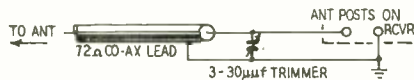

Fig. 1—"Matching stub" for co-ax lead.
**A.** You're quite correct in your assumption that standing waves may exist to some extent on co-axial cable. Coupling methods would have to be quite perfect for every trace of standing waves to be eliminated. There is a simple aid for that particular type of installation. (See Fig. 1.) At the antenna binding